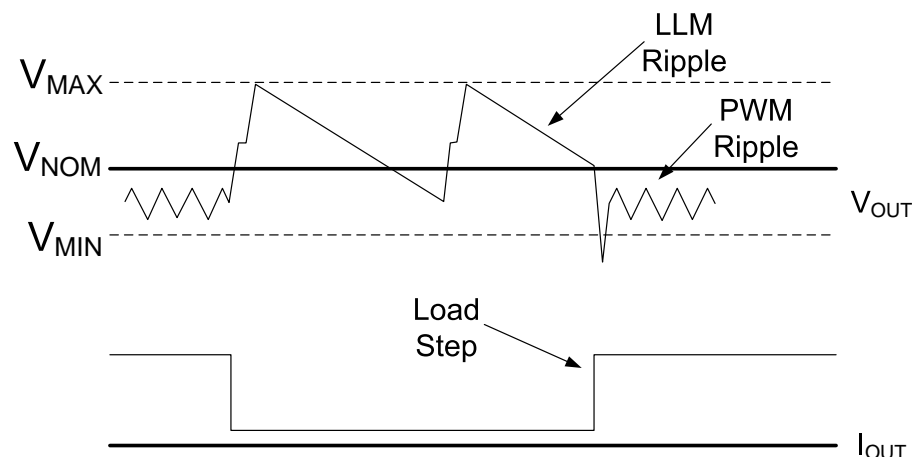

Figure 5: V_{OUT} behavior in LLM operation
When V_{OUT} falls below V_{NOM} , the device will repeat (1), (2), and (3). The voltage step up, or pre-positioning, improves transient droop when a load transient causes a transition from LLM mode to PWM mode. If a load transient occurs, causing V_{OUT} to fall below the threshold V_{MIN} , the device will exit LLM operation and begin normal PWM operation. Figure 5 demonstrates V_{OUT} behavior during transition into and out of LLM operation.